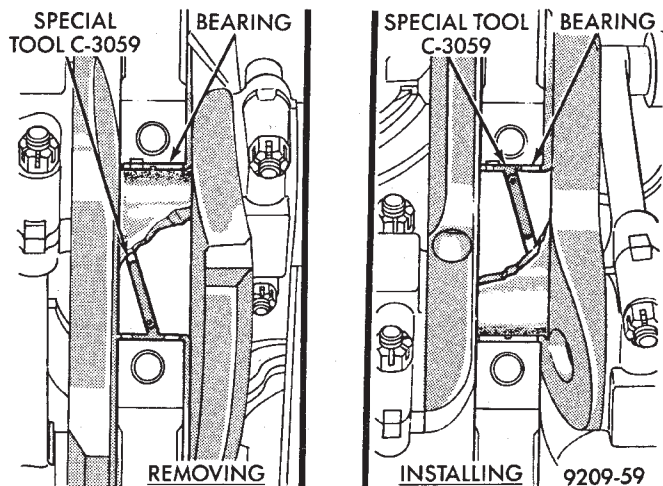

Fig. 17 Upper Main Bearing Removal and Installation with Tool C-3059
(4) Remove upper half of bearing by inserting Crankshaft Main Bearing Remover/Installer Tool C-3059 into the oil hole of crankshaft (Fig. 17).
(5) Slowly rotate crankshaft clockwise, forcing out upper half of bearing shell.
(1) Start bearing in place, and insert Crankshaft Main Bearing Remover/Installer Tool C-3059 into oil hole of crankshaft (Fig. 17).
(2) Slowly rotate crankshaft counterclockwise sliding the bearing into position. Remove Tool C-3059.
(3) Install the bearing caps. Clean and oil the bolts. Tighten the capbolts to 115 N•m (85 ft. lbs.) torque.
- (4) Install the oil pump.
- (5) Install the oil pan.